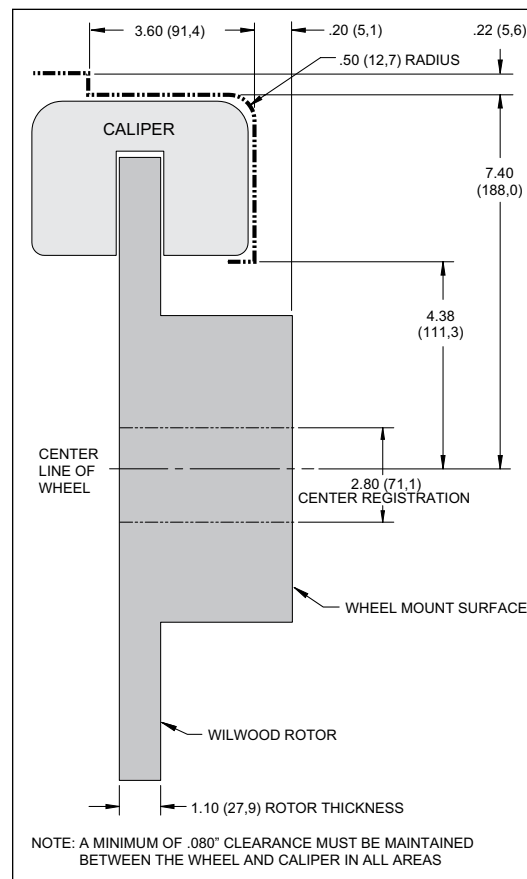

Figure 2. Wheel Clearance Diagram
- Review the wheel clearance diagram (figure 2, page 3) to verify that there is adequate clearance with the wheels you will be using with the installation.